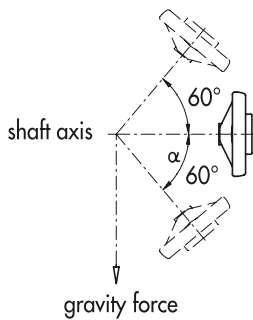

Fig.3
- 5.1 The gravity indicator is more accurate when used on horizontal control spindles. It can be however used on spindles max 60° inclined, but the accuracy decreases as the angle of inclination α° increases (fig. 3).